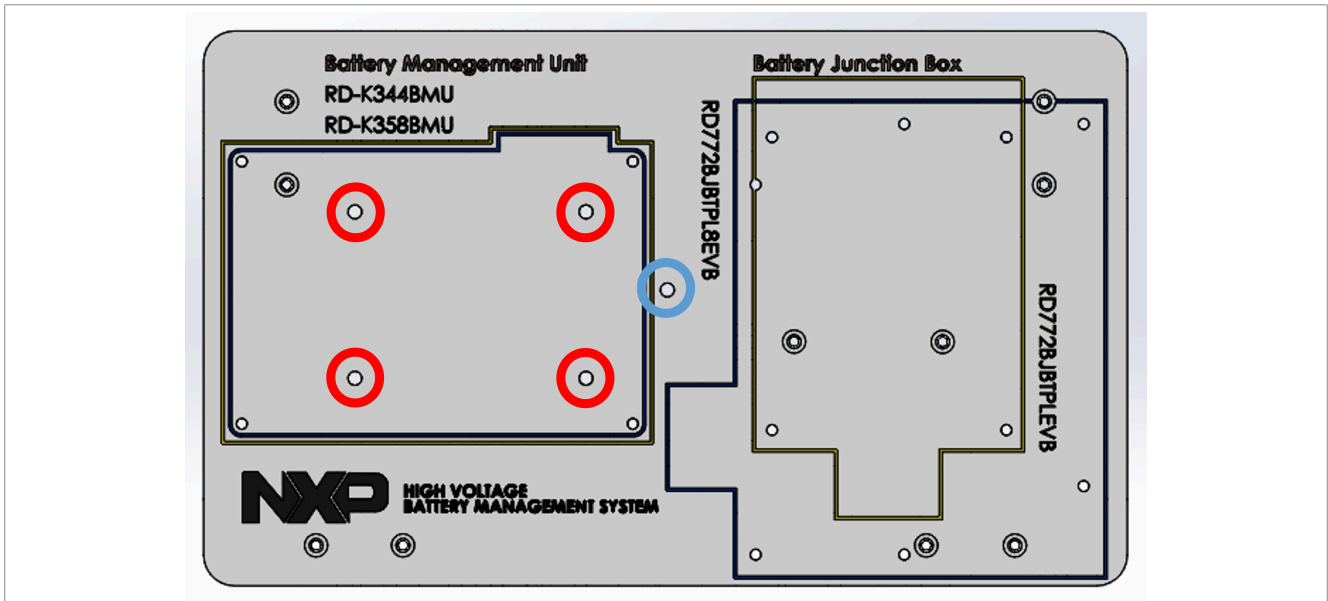
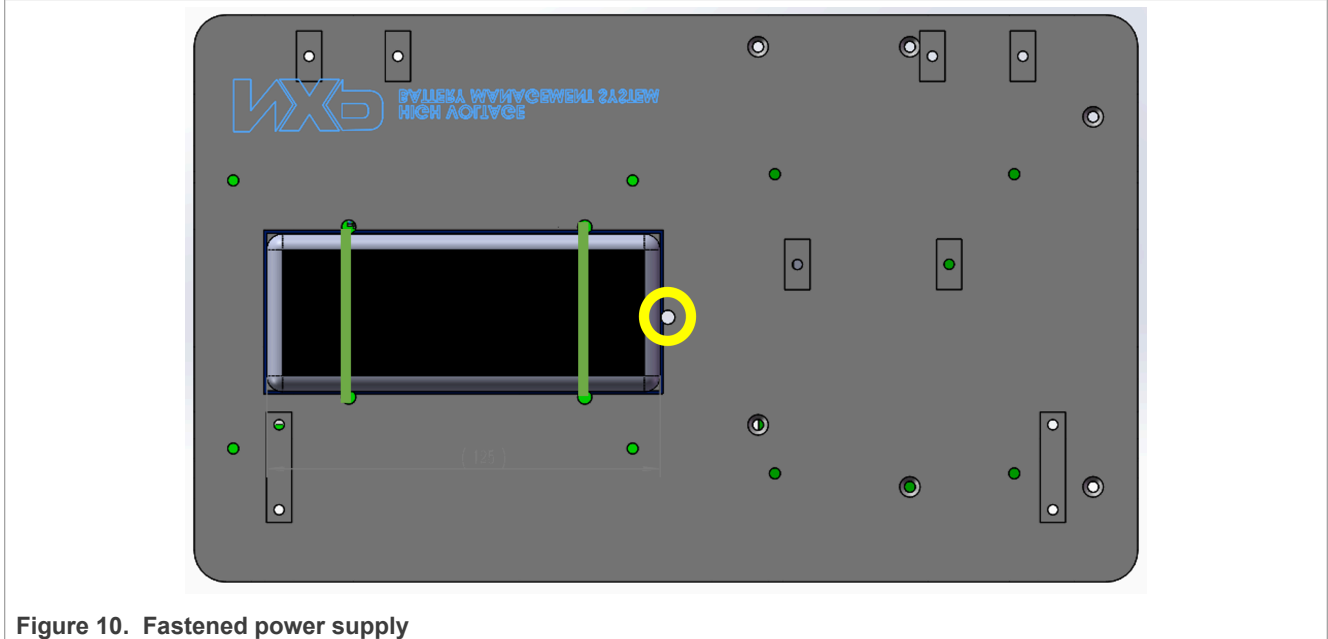

Figure 9. Power supply mounting holes
Figure 10. Fastened power supply
1. Use the two nylon cable ties (600-77772) to fasten one of the power supplies to the top plate according to the red marks on Figure 9 and green marks on Figure 10.
2. It is possible to secure the power supply position by placing one screw (280-78013) and nut (280-78016) according to the blue mark on Figure 9 and yellow mark on Figure 10.